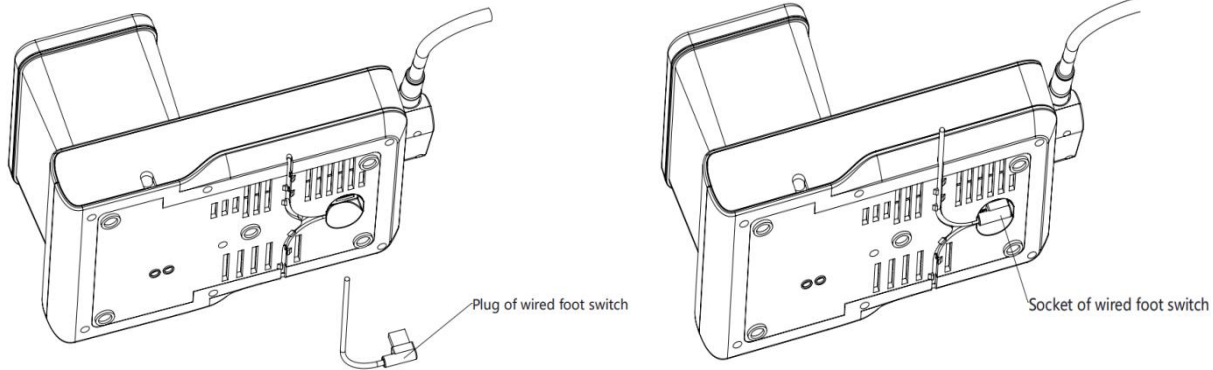
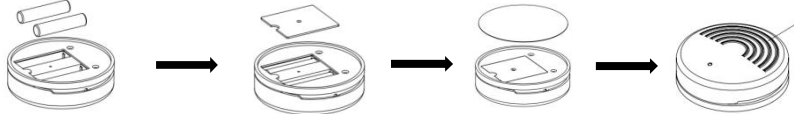

Figure 2.3
Figure 2.7
- 3) Insert the battery into the wireless foot switch or insert the plug of the wired foot switch into the foot switch socket(See Figure 2.3 and Figure 2.7).